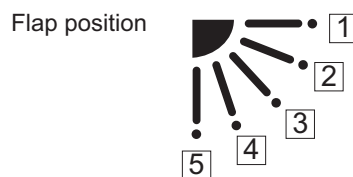

Fig. 2-3
- \* Setting data "**YYYY**" (refer to Fig.2-3)
When the flap position is set to 4 or 5 and the unit is in the cooling or dry mode, the flap position is moved to 3 and the operation is started. (refer to Fig.2-3)
At this time, the unselected flaps are moved to the position 1. (refer to Fig.2-3)